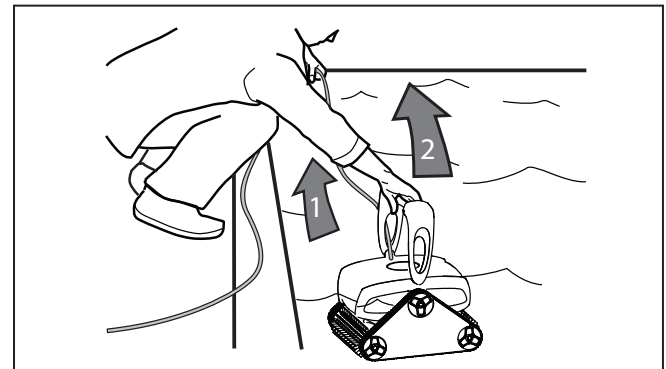

Figure 14. Lift Cleaner From Pool with Handle
- When the cleaner is within arm's reach, use the handle to lift it from the water (Figure 14). Never lift the cleaner out of the pool by the floating cable.